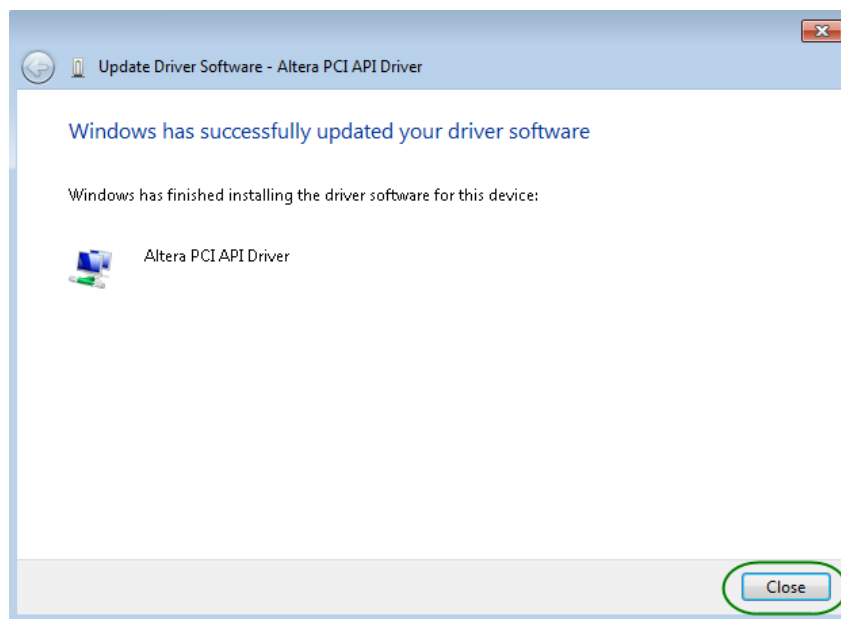

Figure 6-7 Click Close when the installation of Altera PCI API Driver is complete
- When the driver is installed successfully, the successfully dialog will appear, as shown in **Figure 6-7**. Click the **Close** button.